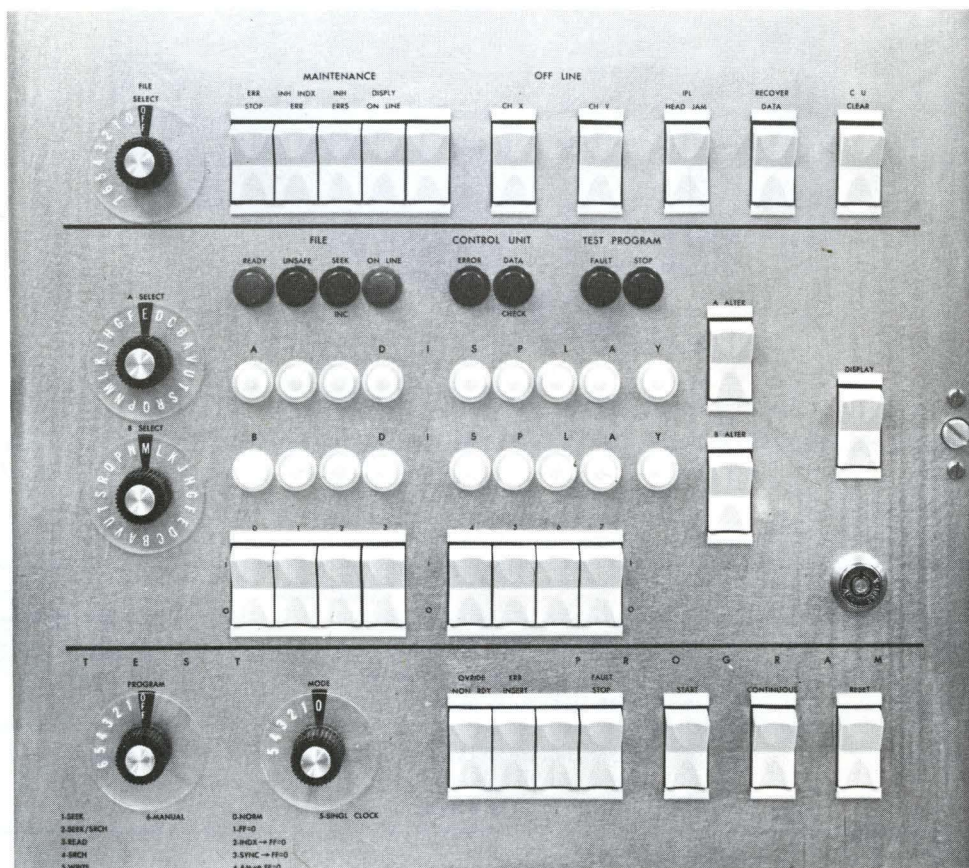
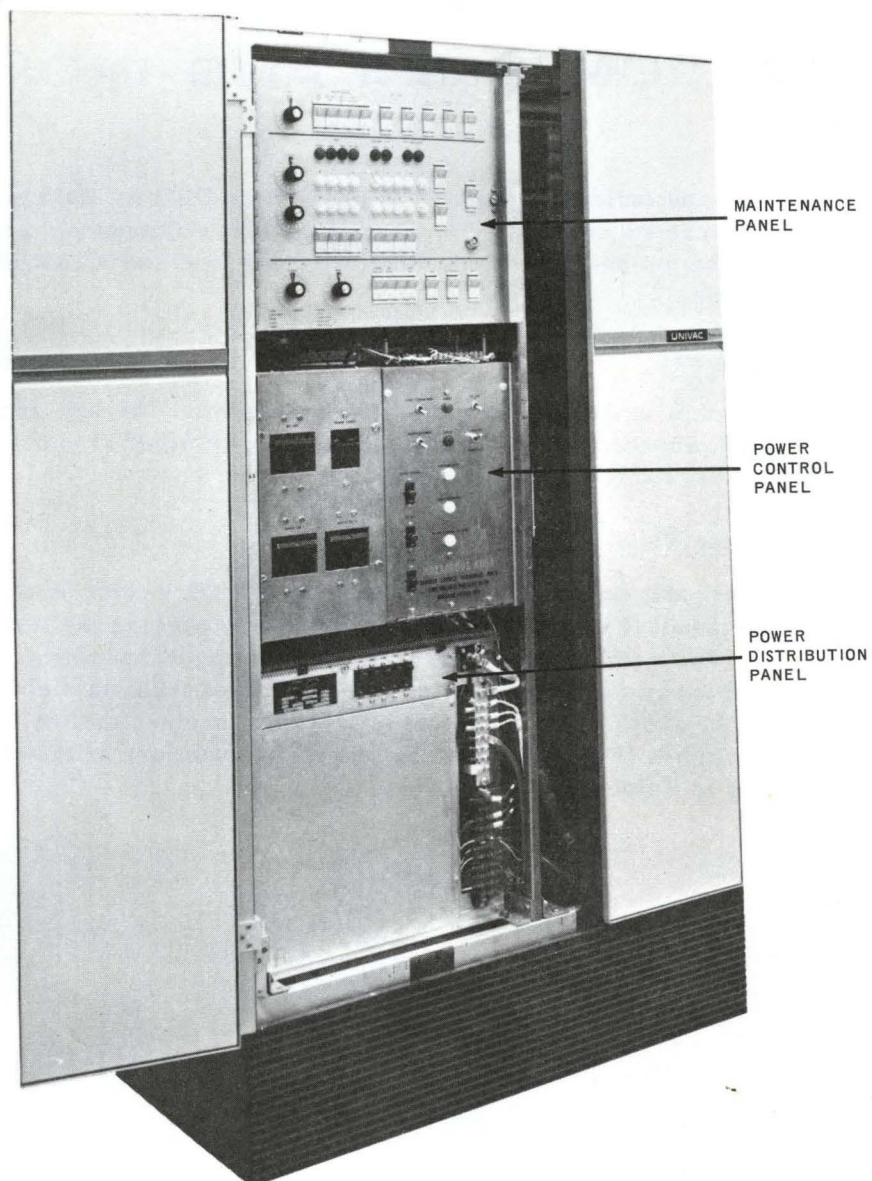
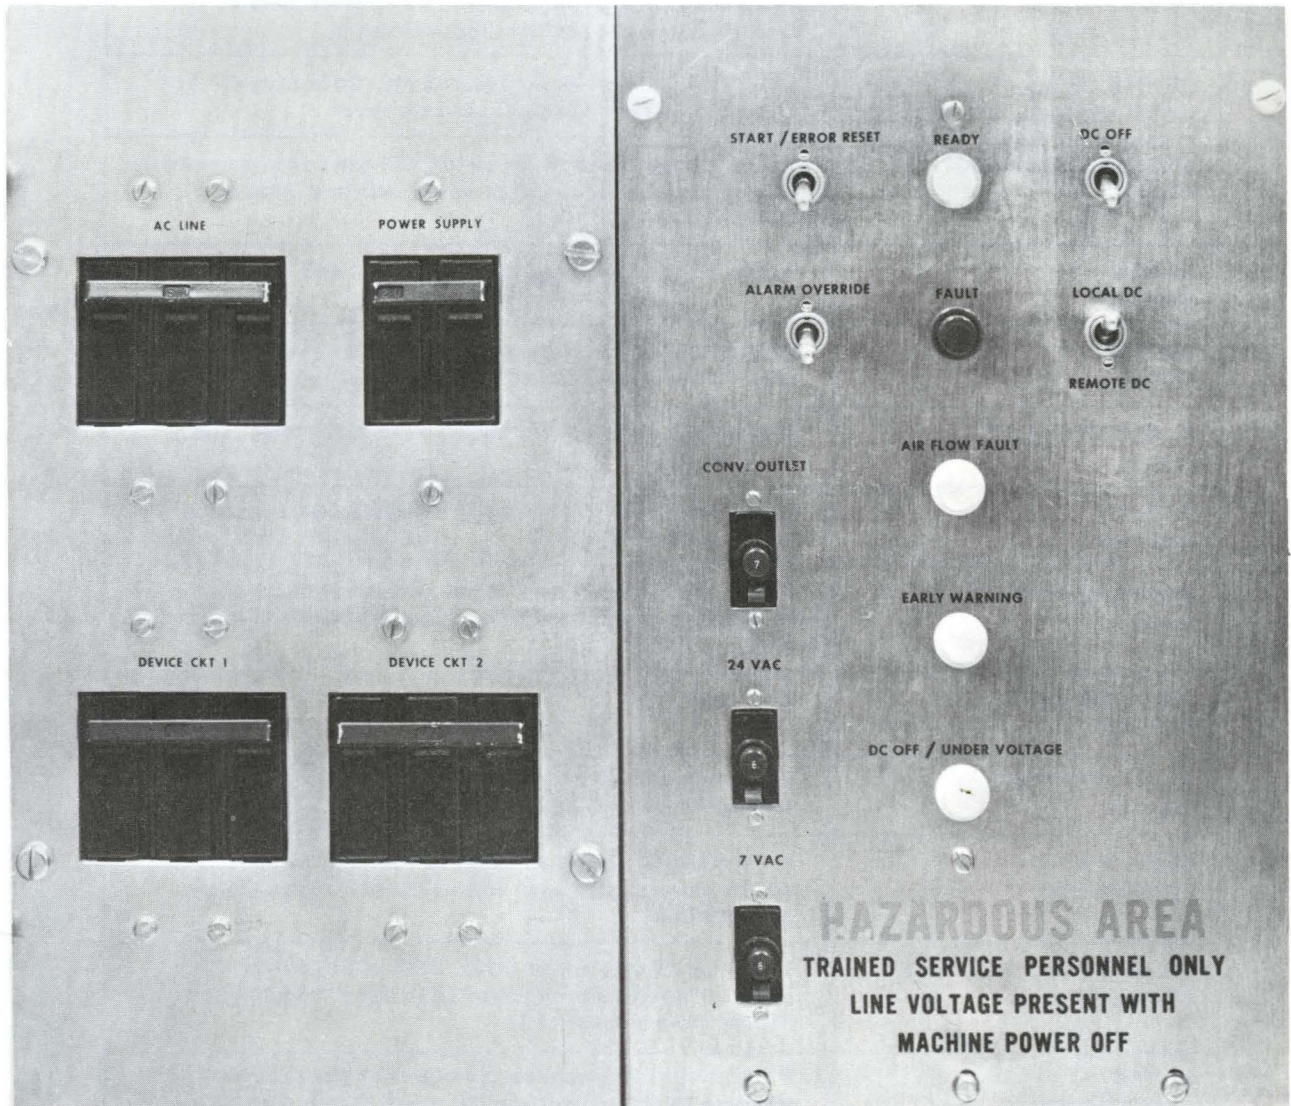
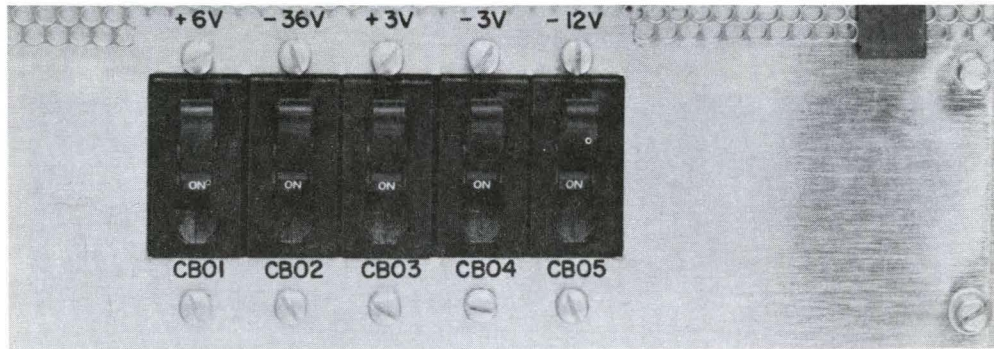

Figure 3-1. Control Unit Maintenance Panel, Controls and Indicators
Figure 3-2. Maintenance and Power Panels of the UNIVAC 5024-00 or 5024-02 Control Unit
Figure 3-3. Control Unit Power Control Panel, Controls and Indicators
Figure 3-4. Control Unit Power Distribution Panel, Controls
The control unit maintenance panel (Figure 3-1) is located in the upper left front of the control unit (Figure 3-2) and is accessed by opening the left front panel of the cabinet. The maintenance panel contains an array of switches and associated displays, all but two of which are for the sole use of a Univac field engineer. The only two switches with which an operator must be concerned are the CH X and CH Y rocker switches (Figure 3-1). The respective functions of the two switches are described in Table 3-1.
The control unit power control panel (Figure 3-3) is located in the center left front of the cabinet (Figure 3-2). The power control panel is accessed by opening the left front panel of the cabinet. The function of each of the controls and indicators is described in Table 3-2.
The control unit power distribution panel (Figure 3-4) is located below the power control panel. The power distribution panel is accessed by opening the left front panel of the cabinet (Figure 3-2). The function of each of the circuit breakers is described in Table 3-3.
- (1) Ensure that the bottom half of each CH X and CH Y rocker switch (Figure 3-1) is pressed if operation is to be online (remote mode); press top half of each switch CH X and CH Y if operation is to be offline (local mode).
- (2) Set AC LINE circuit breaker on the power control panel (Figure 3-3), to up position (on).
- (3) Set POWER SUPPLY circuit breaker to up position (on).
- (4) Set DEVICE CKT 2 circuit breaker to up position (on) to make power available to disc drive units 0 through 3.
- (5) Set DEVICE CKT 1 circuit breaker to up position (on), to make power available to disc drive units 4 through 7.
- (6) Set CB01, CB02, CB03, CB04, and CB05 circuit breakers, located on the power distribution panel (Figure 3-4), to up position (on).
- (7) Press 24 VAC circuit breaker (Figure 3-3).
- (8) Press 7 VAC circuit breaker.
- (9) Set LOCAL DC/REMOTE DC switch to REMOTE DC position if operation is to be from processor (online).
- (10) The READY indicator located on power control panel, when lit, signifies that all operating ac power is present in control unit.
- (1) Ensure that the CH X and CH Y rocker switches, located on control unit maintenance panel (Figure 3-1), are pressed to on (bottom) position.
- (2) Ensure that the LOCAL DC/REMOTE DC switch located on the control unit power control panel (Figure 3-3), is in REMOTE DC position.